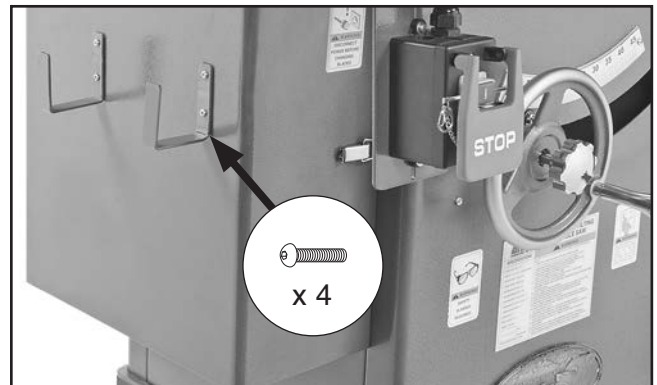

Figure 24. Fence resting brackets installed.
- Mount (2) fence resting brackets with (4) M5-8 x 8 button head cap screws, as shown in **Figure 24**.